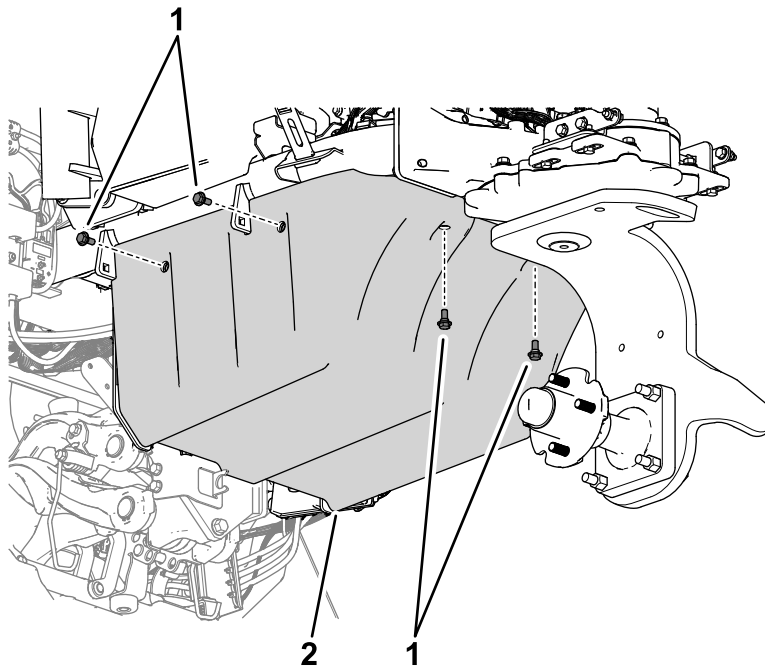

Figure 33
2. Use 6 shoulder bolts to secure the lower battery cover to the lower battery mount (Figure 33).